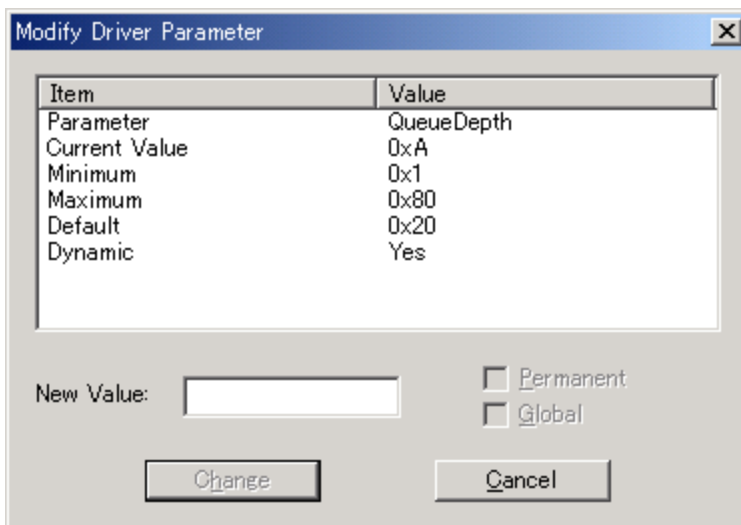

Figure 2.8 Modify Drive Parameter Panel
- e) On the **LightPulse Utility** panel, select the **Driver Parameters** option from the **Category** list box and select the applied parameter. The Modify Driver Parameter panel opens to change the value of the parameter as shown in Figure 2.8.